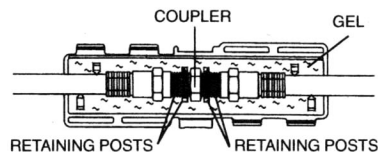

FIG. 1 - PLACE COUPLER
2.02 Place center of coupler between coupler retaining posts. (Fig. 1)